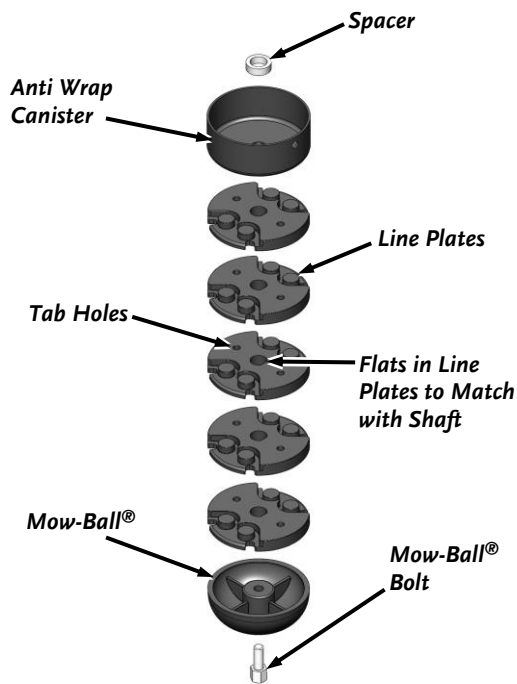

Figure 26
5. Slide the Line Plates, Anti Wrap Canister and Spacer off the Shaft (**Figure 26**).
Improper installation can cause damage to the trimmer bearings. Follow these directions carefully to protect your machine from damage. Reassemble the components in the order shown in **Figure 26**.
1. Place the Spacer and Anti Wrap Canister (with the lip facing up) onto the Shaft (**Figure 26**).